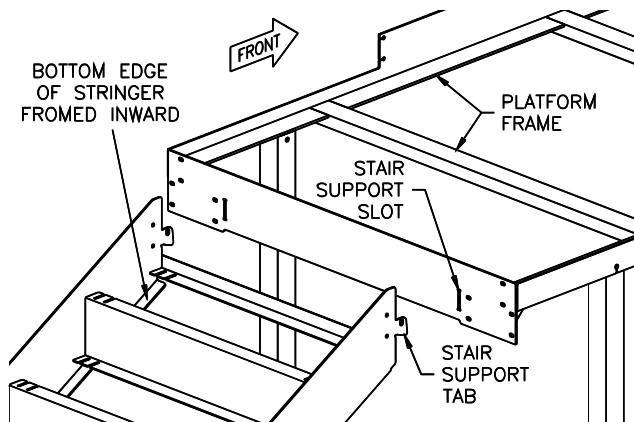
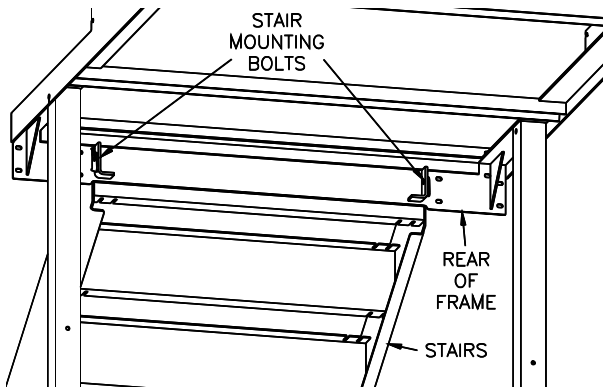

Fig 20 – Stair Support
Fig 22 – Stair Attachment (as viewed from below platform frame looking up at bottom of stairs)
- 35) Position welded stairs near its installed location between the lifts (note: stair support tab toward front of lift with bottom edge of stringer formed inward), **Fig 20**.
- 44) * Raise front of stairs, **Fig 20**, and fit stair support tabs into the slots in the rear face of the platform frame. Secure the stairs from inside the platform frame with 3/8 hardware, **Fig 22**.